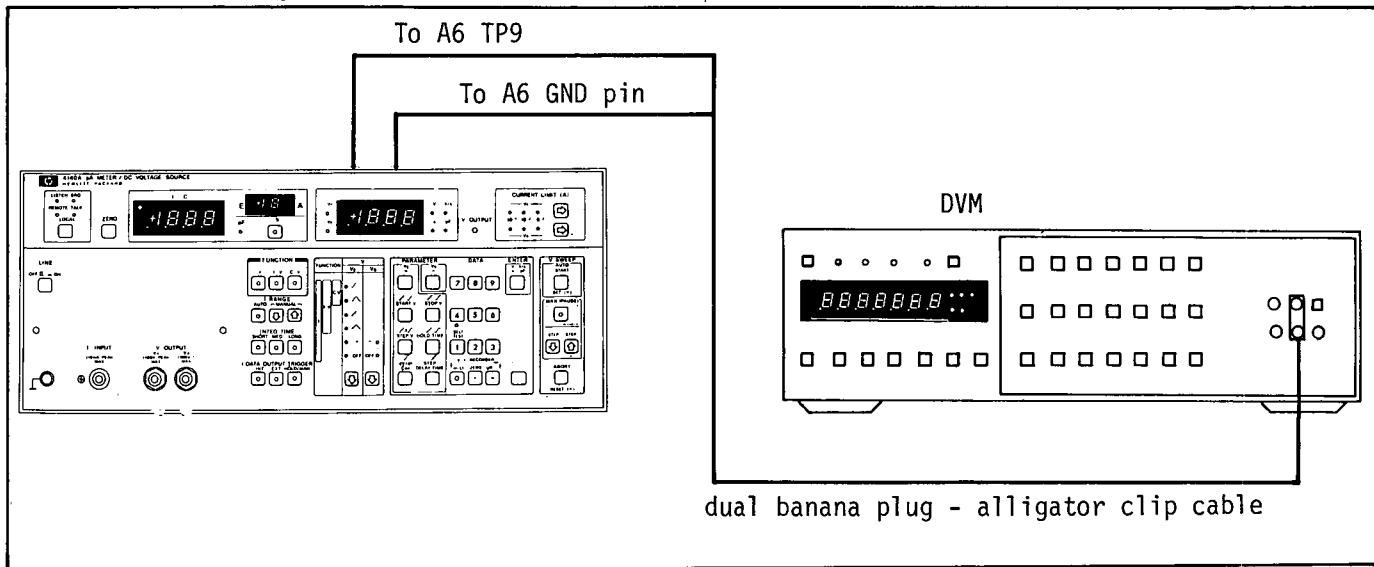

Figure 5-5. VS (Voltage Source) Ramp Generator Adjustment Setup.
4. Connect DVM plus input to "dV/dt BUF. OUT" A6TP9 (see Figure 8-22 for location) and minus input to A6GND pin with dual banana plug to alligator clip cable. See Figure 5-5.